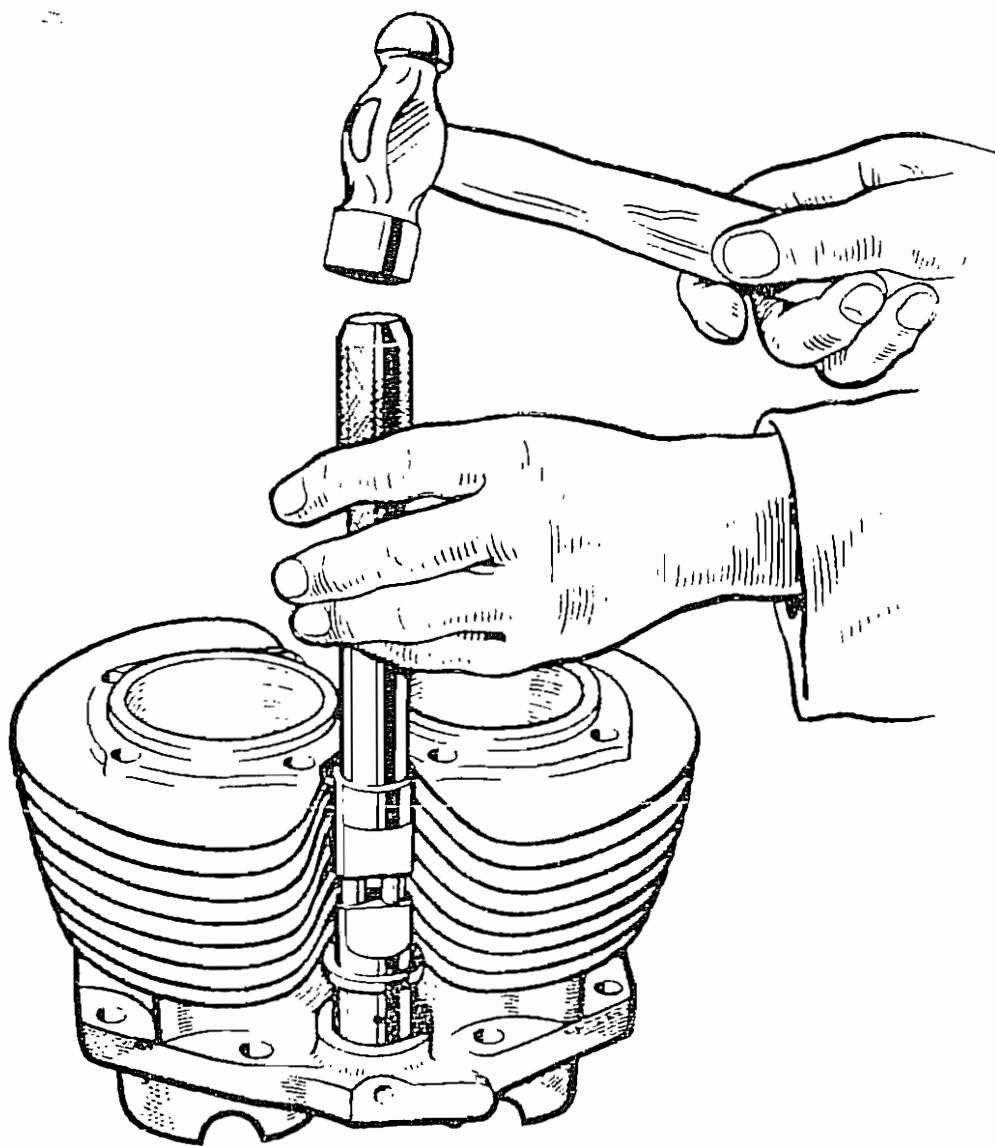

Fig. 14. ASSEMBLING THE TAPPET BLOCK
**Tappet Blocks.** It is not necessary to remove the tappet blocks from the cylinder base for inspection; the amount of wear can be estimated by rocking the tappet head. The tappet stem should be a sliding fit in the tappet block bores and the tappet base must fit snugly in the block base. Slackness at these points will cause excessive mechanical clatter. To remove the tappet blocks from the cylinder base flange, place the cylinder block downwards on the bench, remove the locking screw and drift the tappet block out of the cylinder flange. When fitting the new tappet block, grease the outer surface and if possible support the cylinder flange (See Fig. 14). Do not forget to line up the locking screw hole in the tappet block to that in the flange. Replace the locking screw.